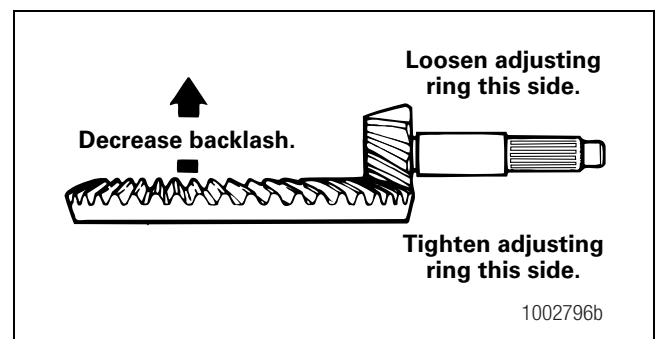

Figure 5.63
- **To decrease the backlash:** Move the ring gear toward the drive pinion. Figure 5.63.